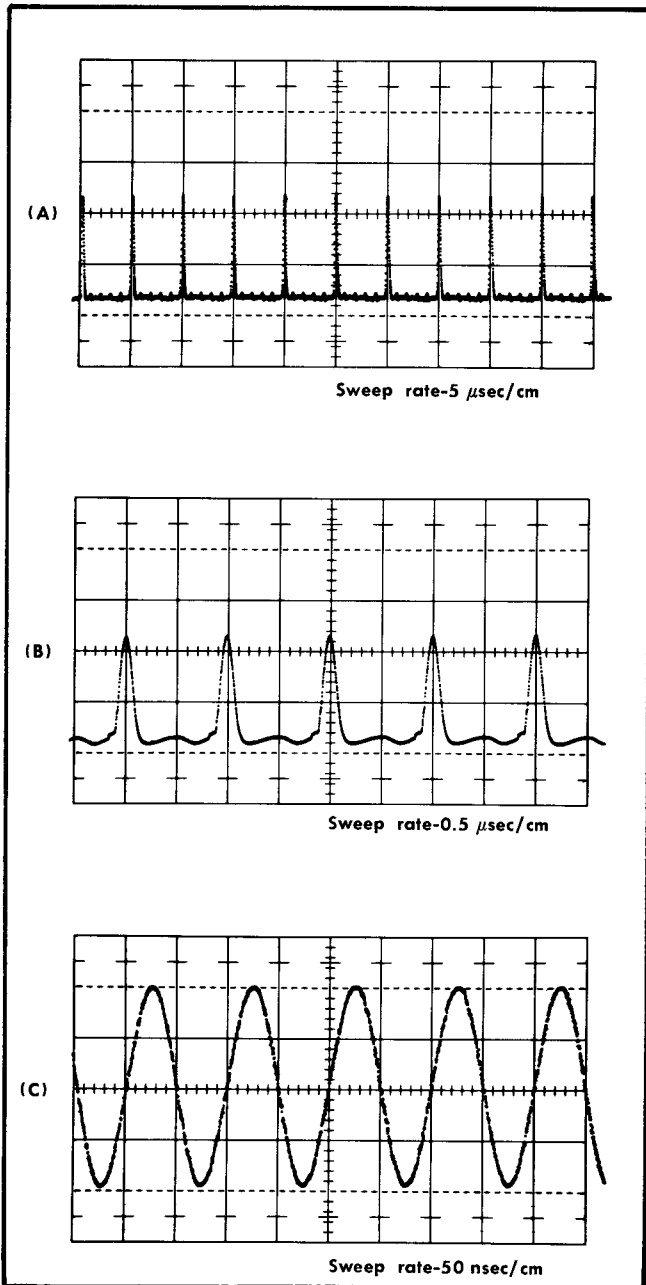

Fig. 5-55. Typical indicator oscilloscope displays for checking the  $\times 10$  and  $\times 100$  magnifiers.
m. Check timing when using the X10 and X100 magnifiers as given in Table 5-2 and illustrated in Fig. 5-55. Timing over the center 8 cm should be within 1% (0.08 cm) at each magnification.